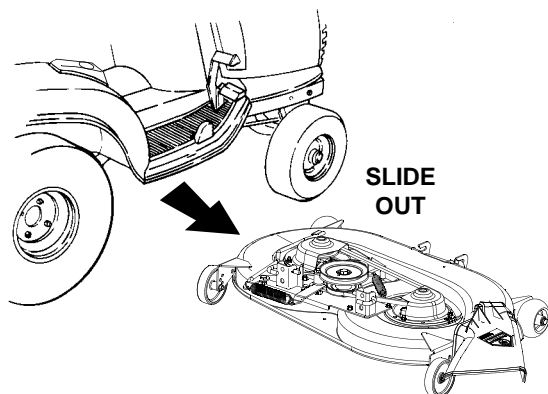

Figure 49
10. With the tractor implement lift handle raised to its highest setting, slide the deck to the right and out from under the tractor (See Figure 49).